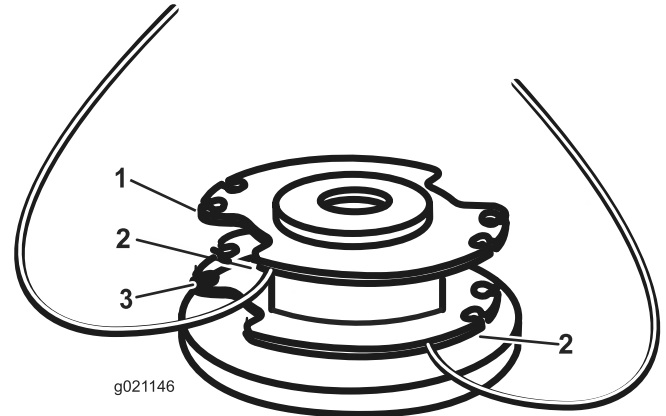

Figure 18
4. Insert the string into the anchor holes in the upper part of the spool (Figure 18). Wind the string onto the spool in the direction shown by the arrows on the spool.